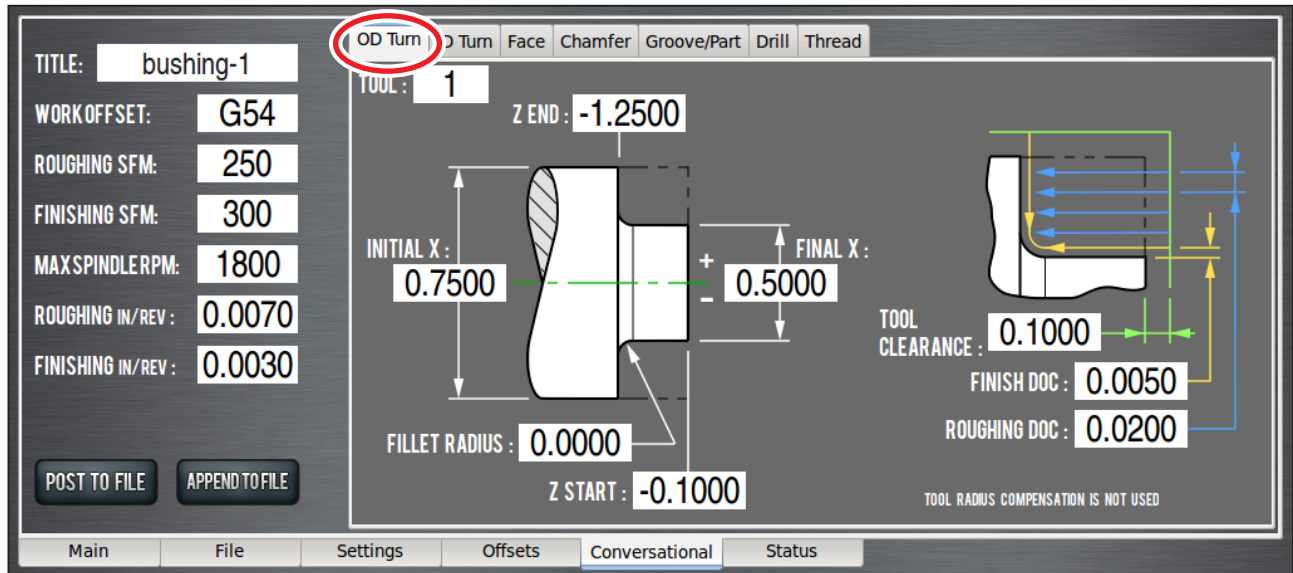

Figure 4.29
1. Click on *OD Turn* tab on the *Conversational* screen. Enter values shown in **Figure 4.29** to create another OD turn routine that turns the first 1.125" of the part down to 0.5000".